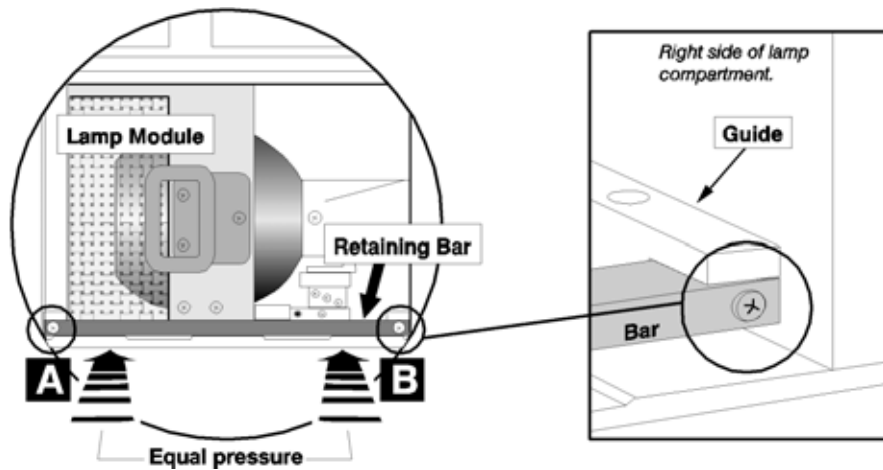

Figure 20 – Install Retaining Bar
35. Position the retaining bar along the bottom edge of the lamp module, with the ends positioned under the alignment guides (Figure 20 – Install Retaining Bar20). If the bar does not fit, push the lamp module further in. **IMPORTANT:** *The order in which the screws are tightened is critical to proper lamp contact alignment.*